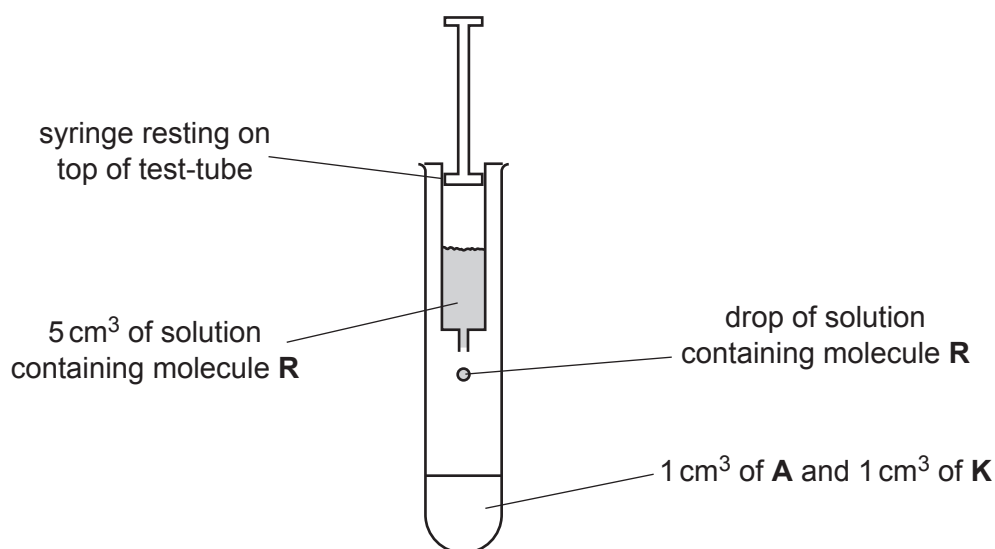

Fig. 1.2
- step 7 Put the syringe containing 10% **R** into the test-tube from step 4 as shown in Fig. 1.2.